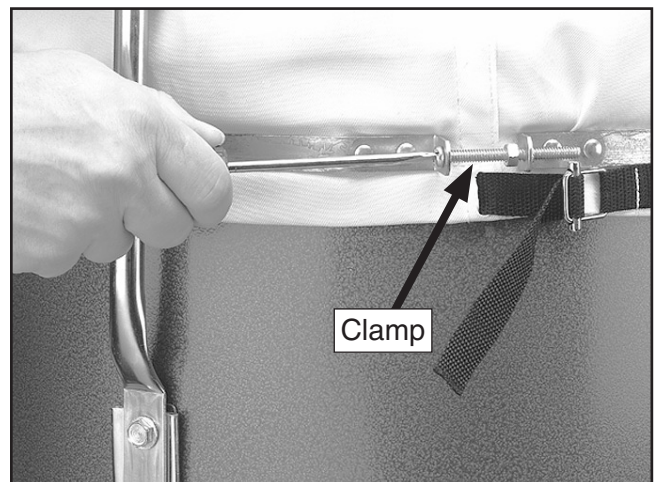

Figure 10. Upper collection bag secured.
8. Tighten the upper bags to the collector using the clamp kits shown in **Figure 10**.